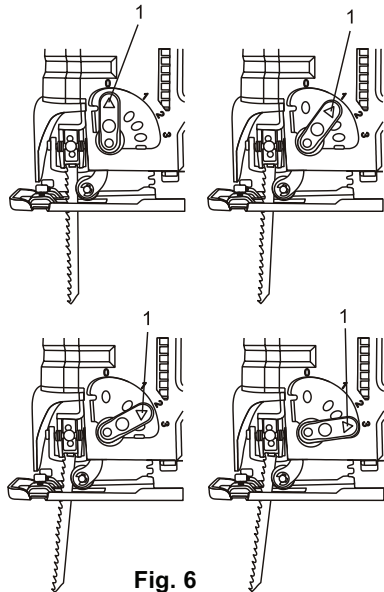

Fig. 6
To set the orbital cutting angle, rotate the orbital cutting lever forward or backward to the desired setting number (1) (Fig. 6).